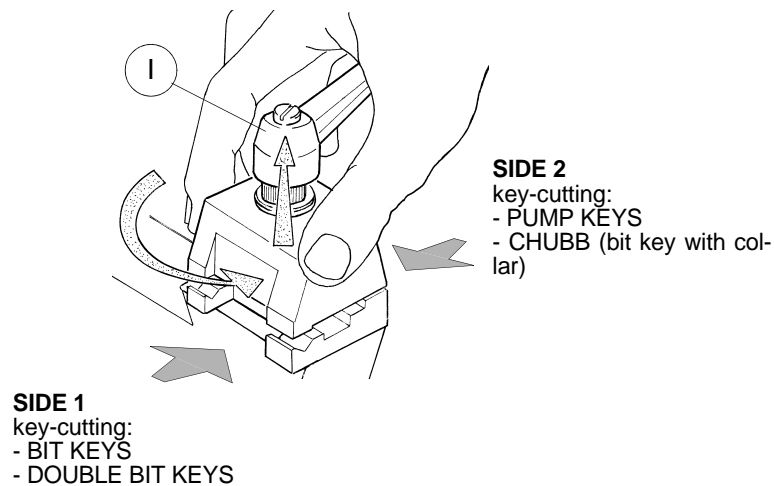

Fig. 12
- 1) Loosen the clamp fastening knob (I) raise it and turn it to the desired position (side 2 - fig. 12, page 16).